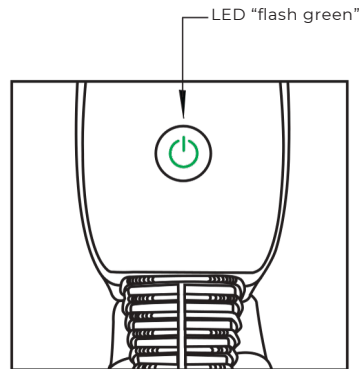

figure 3
- Switch on sander by pressing the ON/OFF key .The sander LED is now **Green** when it is on. indicating the sander to enter the working state. - see figure 3